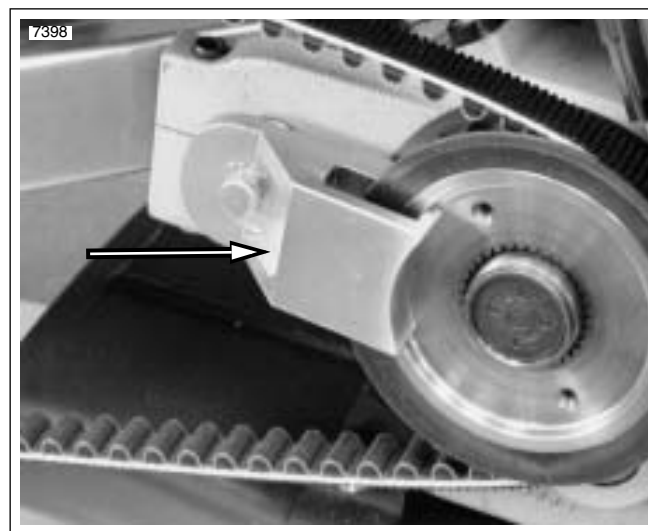

Figure 6-56. Sprocket Locking Tool (Part No. B-43982)
3. See Figure 6-56. Secure pulley using SPROCKET LOCKING TOOL (Part No. B-43982).
5. See Figure 6-56. Install SPROCKET HOLDING TOOL (1) (Part No. B-43982) as shown.